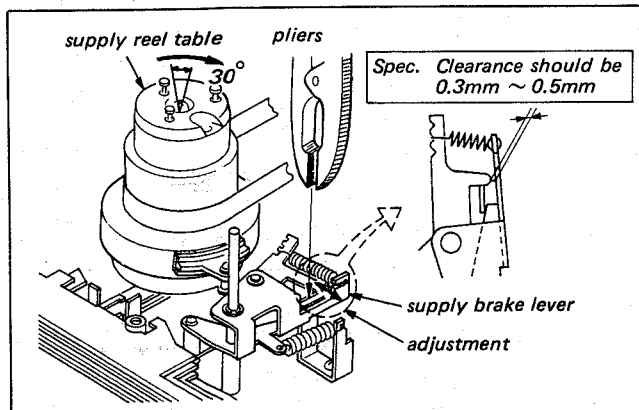

Fig. 4-16. Supply reel-table, brake torque adj. (EJECT mode)
2. Grasp the top of the Supply Reel-Table with fingers. Check to see the clearance of 0.3 mm ~ 0.5 mm shown in Fig. 4-16 as it is turned (↻) clockwise approx. 30 degrees. Correct clearance is 0.3 mm ~ 0.5 mm. If not, adjust it by bending the Supply Brake Lever shown in Fig. 4-16.